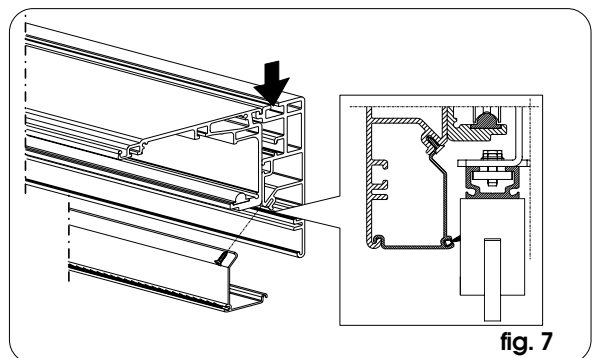

fig. 7
☞ Intermediate securing points may be required according to length of head profile (by making use of the guide shown in fig. 7):
• If using the closing profile for a free-standing automated system, assemble it as shown in fig 7.